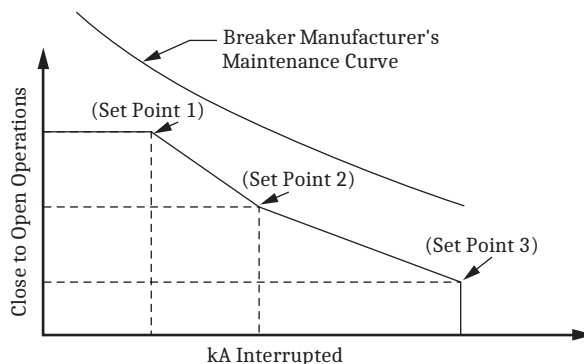

Figure 21 Breaker Contact Wear Curve and Settings
- Every time the breaker trips, the relay integrates interrupted current. When the result of this integration exceeds the threshold set by the breaker wear curve (Figure 21), the relay can alarm via an output contact or the optional front-panel display. With this information, you can schedule breaker maintenance in a timely, economical fashion.